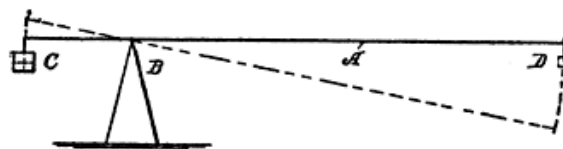

Fig. 126. Simple Lever ToList
In Fig. 126 is a lever (A), resting on a fulcrum (B), the fulcrum being so placed that the lever is four times longer on one side than on the other. A weight (C) of 4 pounds is placed on the short end, and a 1-pound weight (D), called the *power*, on the short end. It will thus be seen that the lever is balanced by the two weights, or that the *weight* and the *power* are equal.